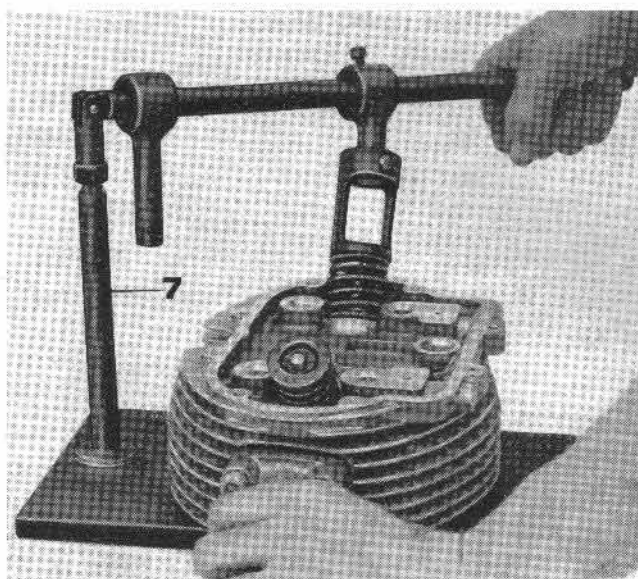

Fig. 13
- cylinder heads c/w valves and remove gasket. Using tool No. 60907200 (see 7 on Fig. 13) remove from cylinder head the semicones, top collars, springs, bottom collars and then extract valves from inside.
Position cylinder head on tool No. 60907200 (see 7 on Fig. 13) and with the arm of same press on the valve top collar so to remove semicones, top collar, spring, bottom plate and, from inside cylinder head, the valve.